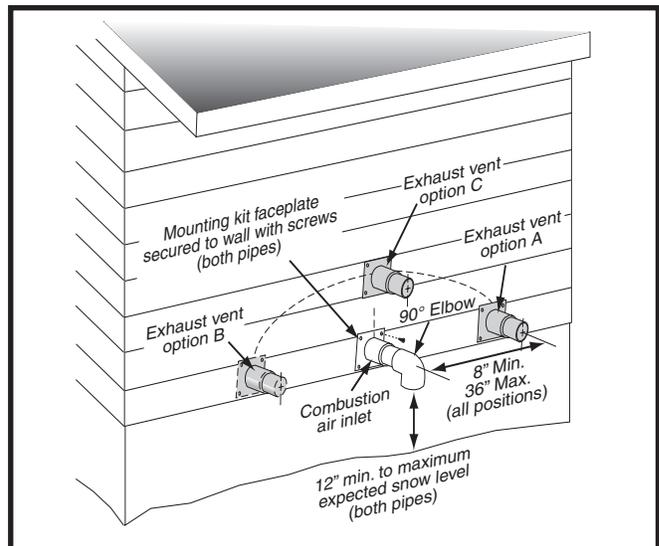
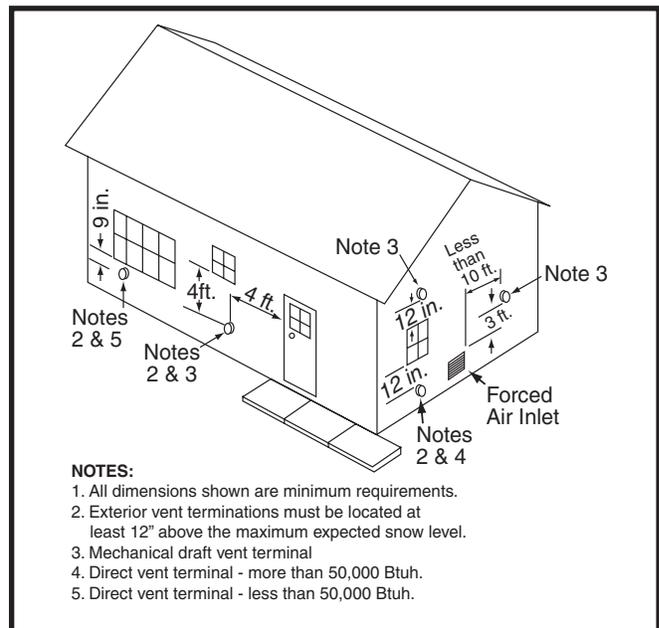
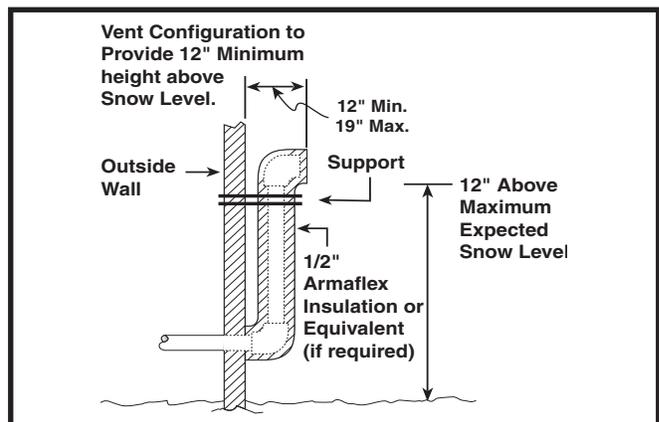
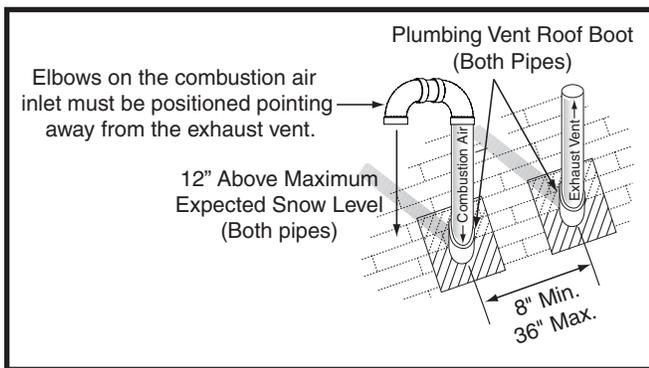

Figure 7. Inlet & Exhaust Pipe Clearances
Figure 8. Vent Locations
Figure 9. Alternate Horizontal Vent Installation
Figure 10. Vertical Vent Termination
- The combustion air intake and the vent exhaust must be located in the same atmospheric pressure zone. This means both pipes must exit the building through the same portion of exterior wall or roof as shown in Figure 7 \(page 10\), Figure 8, Figure 9 \(page 10\), & Figure 10.
Vent and combustion air intake terminations shall be installed as depicted in Figure 7, Figure 8, and in accordance with these instructions:
- All minimum clearances must be maintained to protect building materials from degradation by flue gases as shown in Figure 8.
- When the vent pipe must exit an exterior wall close to the grade or expected snow level where it is not possible to obtain clearances shown in Figure 7, a riser may be provided as shown in Figure 9 \(page 10\). Insulation is required to prevent freezing of this section of pipe. For vent freezing protection, see page 12.
The combustion air vent and exhaust vent must be configured as shown in Figure 9. Improper vent terminations can cause the recirculation of flue gases which may result in furnace vibration. In severe cases, the furnace will cycle, due to the intermittent contact between the flame and the flame sensor. If you notice these oscillations occurring, check the vent configuration to make sure the exhaust vent does not have a 90 degree termination.
- The combustion air inlet pipe must have a 90 degree termination elbow, and pointed downwards as shown in Figure 7 \(page 10\).
Termination spacing requirements from the roof and from each other are shown in Figure 10.
- The termination clearances shown in Figure 10 are maintained.